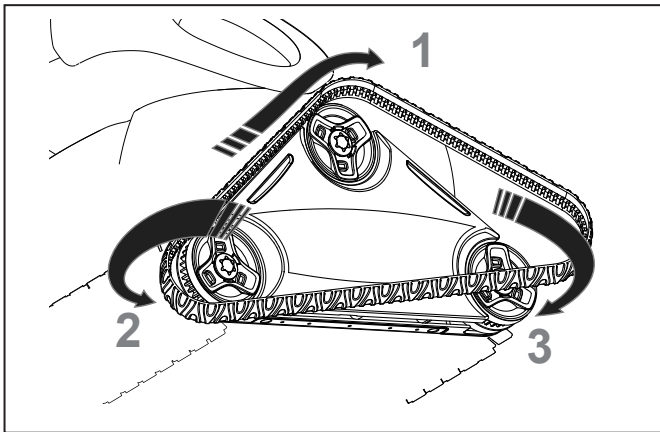

Figure 32. Stretch Track Around Wheels
4. Stretch the track around the second wheel, then pull over the last wheel (see Figure 32). Push and position the rib of the track so that the track is seated properly in the groove of the wheel.